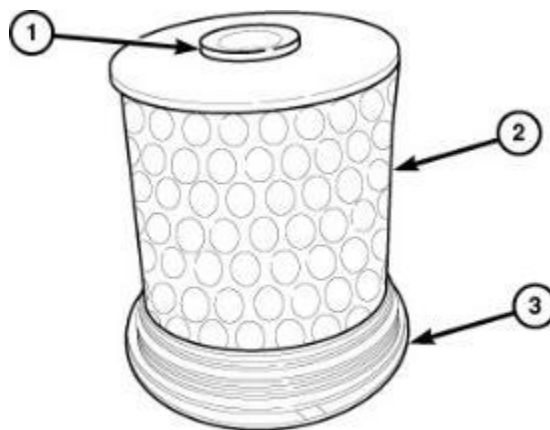

Figure 8 – Filter Seal
11. Position and push down on **NEW** fuel filters (2) to install filter onto the cover (3) (Figure 8).
12. Lubricate the rubber seal (1) with clean diesel fluid (Figure 8).